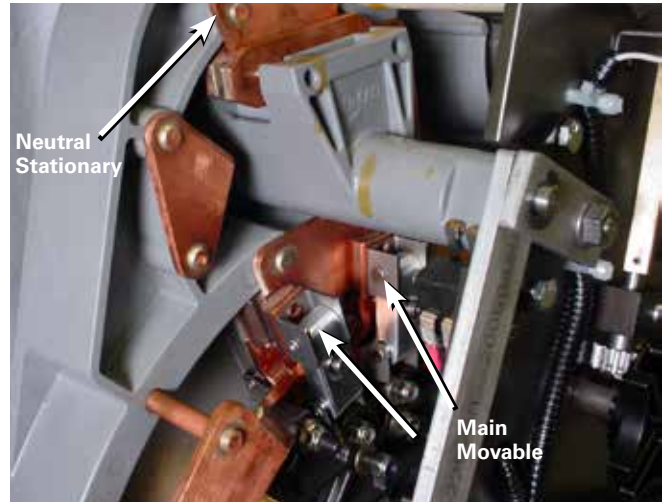

Figure 153. Neutral stationary contact.
- A. Main movable contacts are located on the neutral stationary contact, which is located at the 11 o'clock position and under the reversing switch movable contact assembly. See Figure 153.